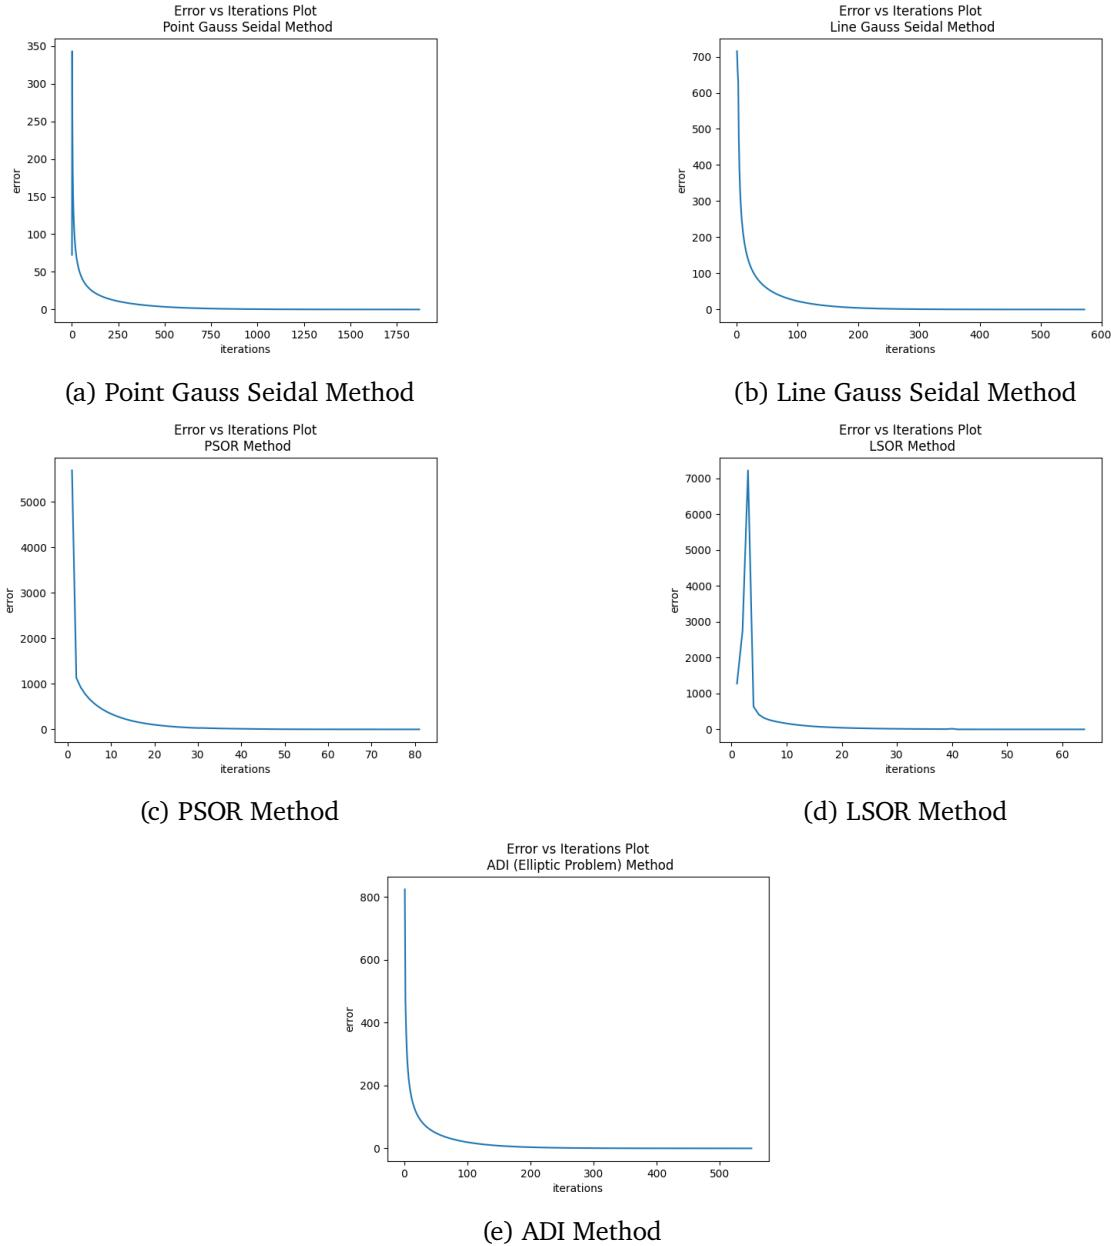

Figure 4: Error vs Iteration Plots
- From figure 4(a), it can be seen that the least number of iterations are obtained when the relaxation factor has a value of 1.8 approximately.
- It can be seen from the figure 4(b) that beyond $\omega = 1.2$, the number of iterations are rising.
- In reference to figure 4(c), the optimum relaxation factor for LSOR method is calculated using 21 points in the truncated range.